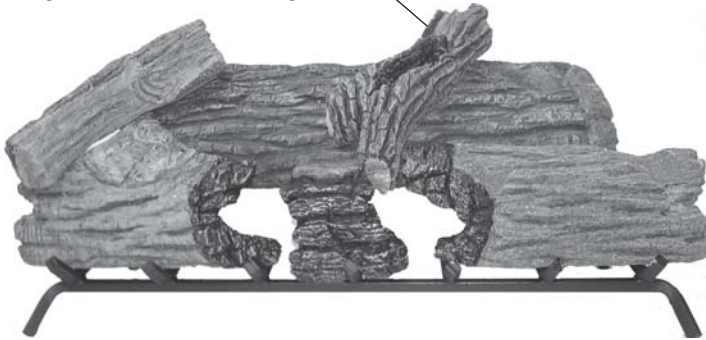

Figure 40 - Installing Right Side Middle Log (#7)
7. Install right side middle log #7. See Figure 40.